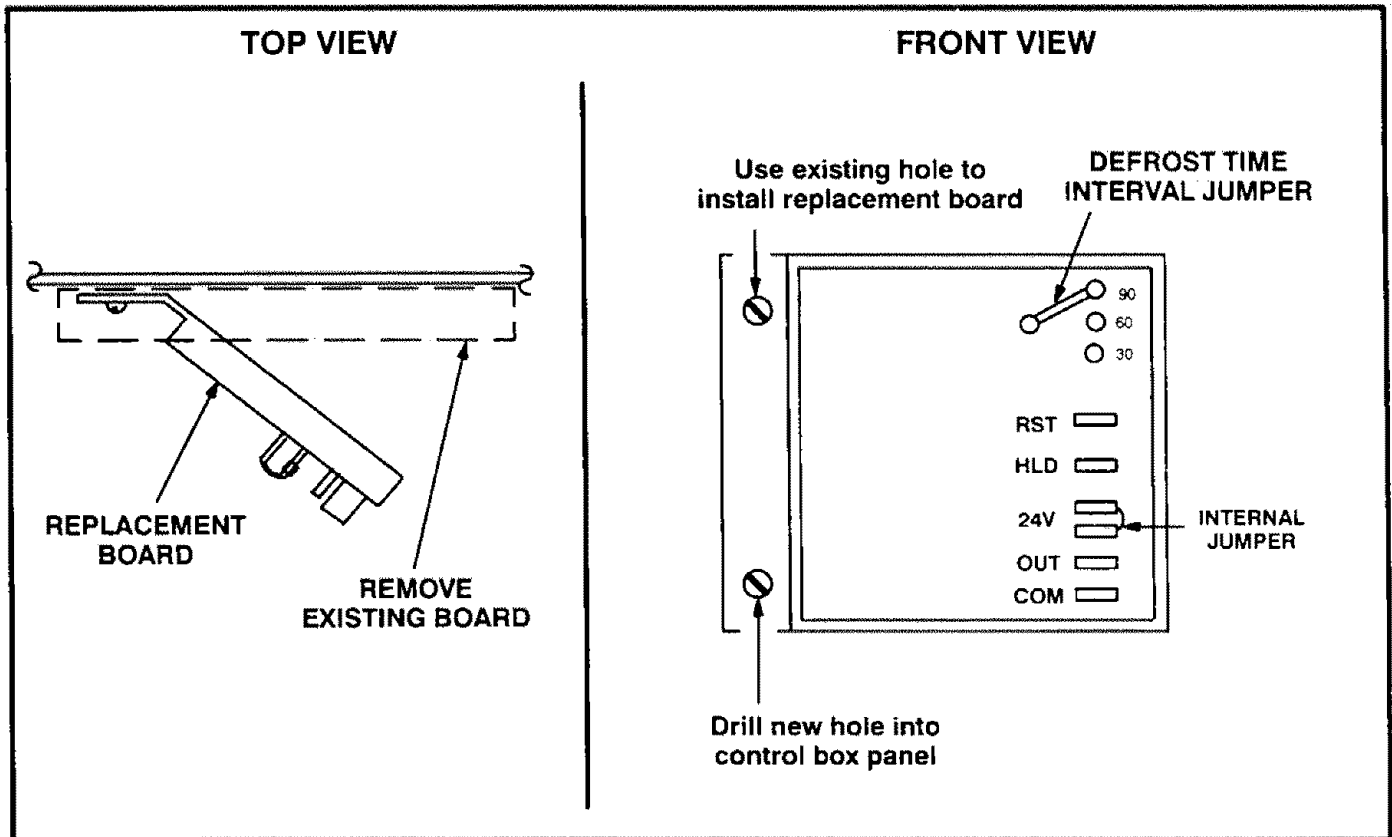

FIGURE 1
- 4- Remove and retain screw from existing solid state defrost board located in control box. Note existing wiring. See figure 1.